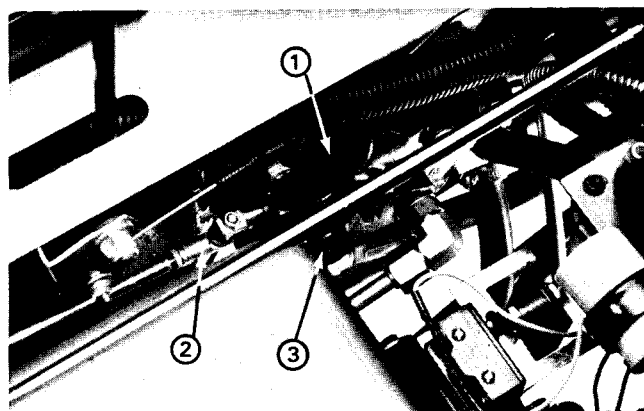

Figure 29
3. Remove the cap screw and disconnect the ball joint from the control valve (Fig. 29).